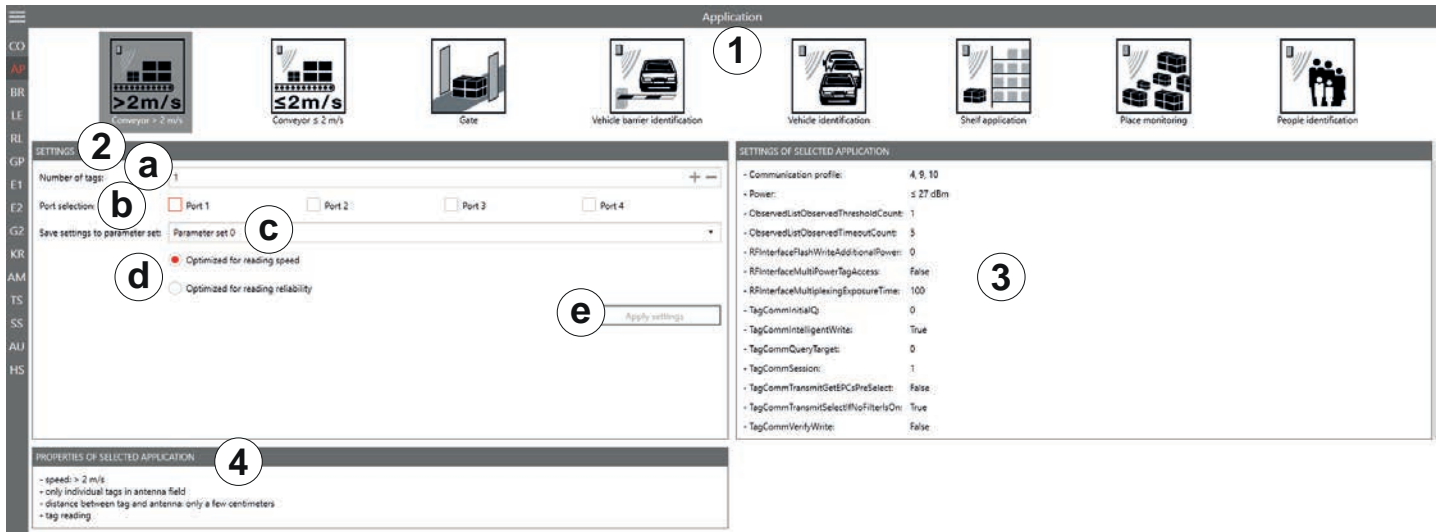

Fig. 51: Application Tab
- ▶ Click *Stop* (⑤) to stop the reading.
- ▶ Click *Clear* (⑥) to remove all tag entries from the table (Ⓐ in Fig. 51, p. 97).